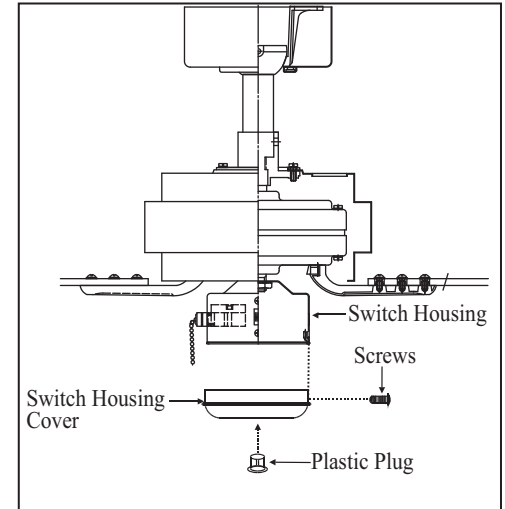

Figure 17
2. Attach the plastic plug to the switch housing. (Fig. 17)